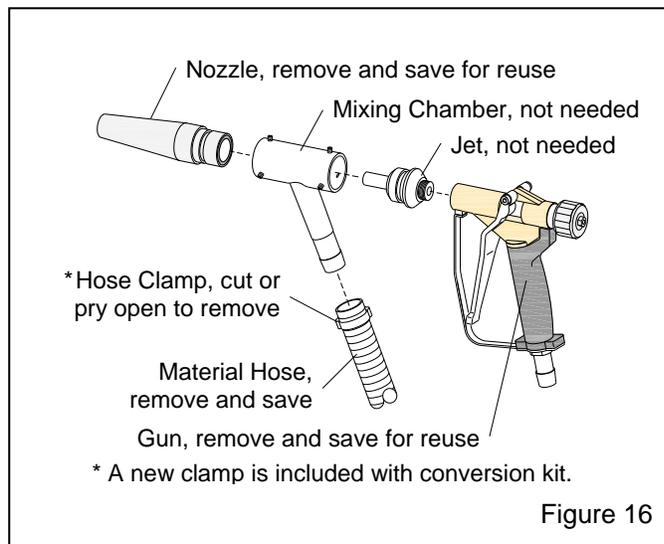

Figure 16
7.2 Remove Dry Blast Components from the Power Gun – Figure 16